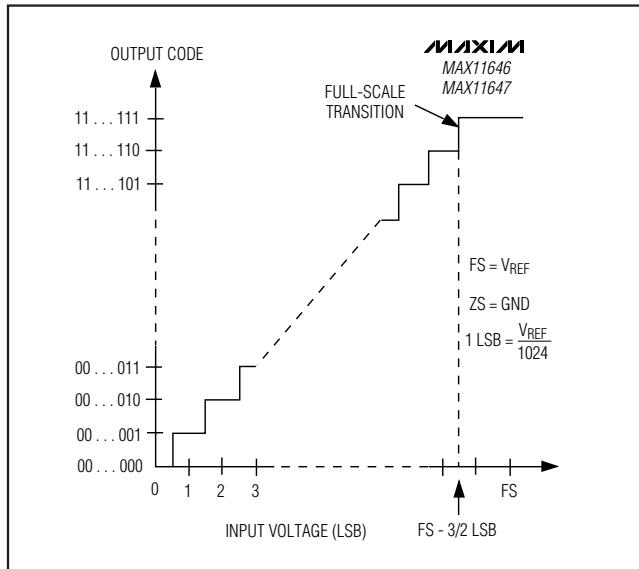

Figure 12. Unipolar Transfer Function
Output data coding for the MAX11646/MAX11647 is binary in unipolar mode and two's complement in bipolar mode with 1 LSB =  $(V_{REF}/2^N)$  where N is the number of bits (10). Code transitions occur halfway between successive-integer LSB values. Figures 12 and 13 show the input/output (I/O) transfer functions for unipolar and bipolar operations, respectively.